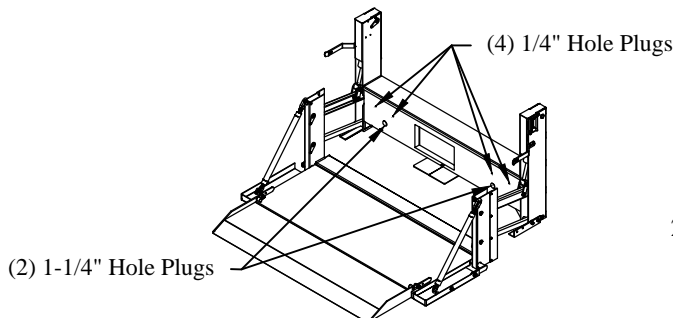

Figure 4: Plugged Mounting Holes
4. **Remove** two (2) 1 1/4" and four (4) 1/4" hole plugs from access holes (Figure 4).
- 1. Pull** two (2) 3-prong tail light plugs and a 2-prong tail light plug through each 1-1/4" access hole (Figure 4 or 5).
- 4. Secure** the grommets inside the 1 $\frac{1}{4}$ " holes (Figure 4).